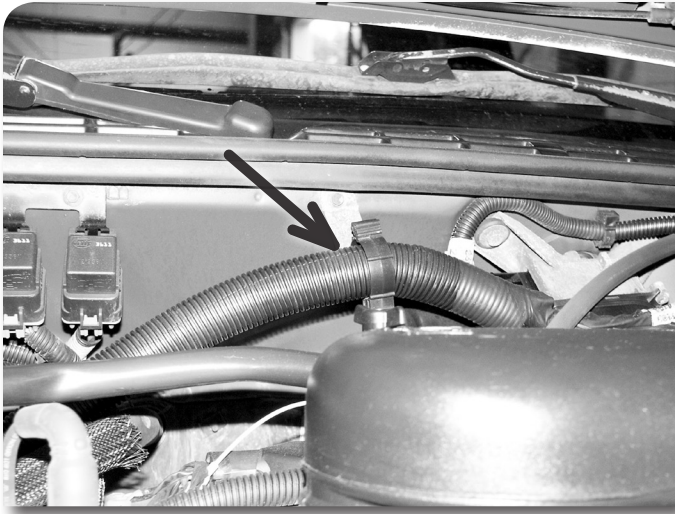

Figure 11
16. Remove the large wiring harness running along the firewall from the retaining clip at the middle of the engine compartment **Figure 11**.